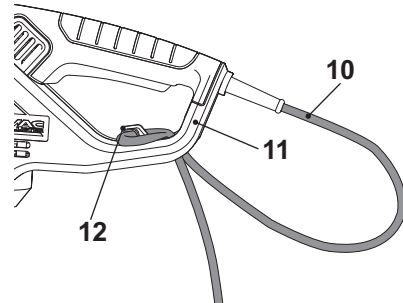

Fig. 5
2. Pull it over the cord retainer (12) and gently tug on the power cord (10) to ensure that it is firmly secured (Fig. 5).